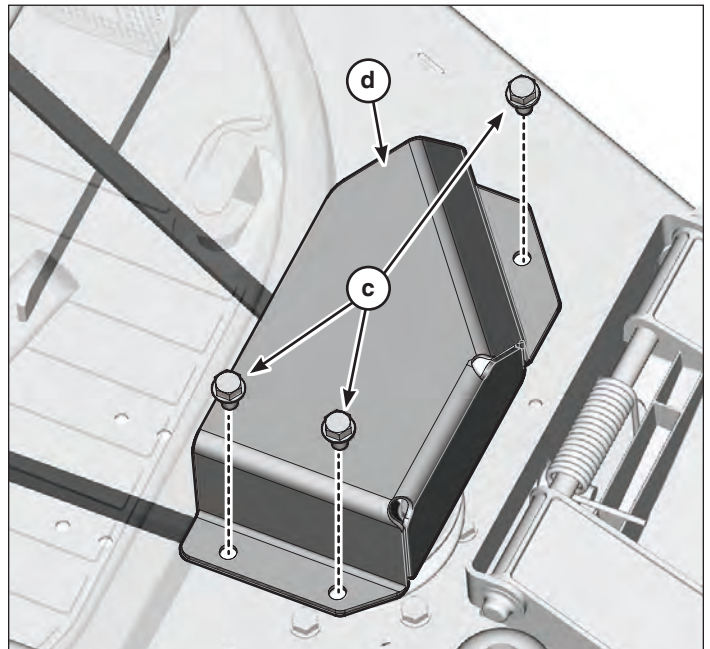
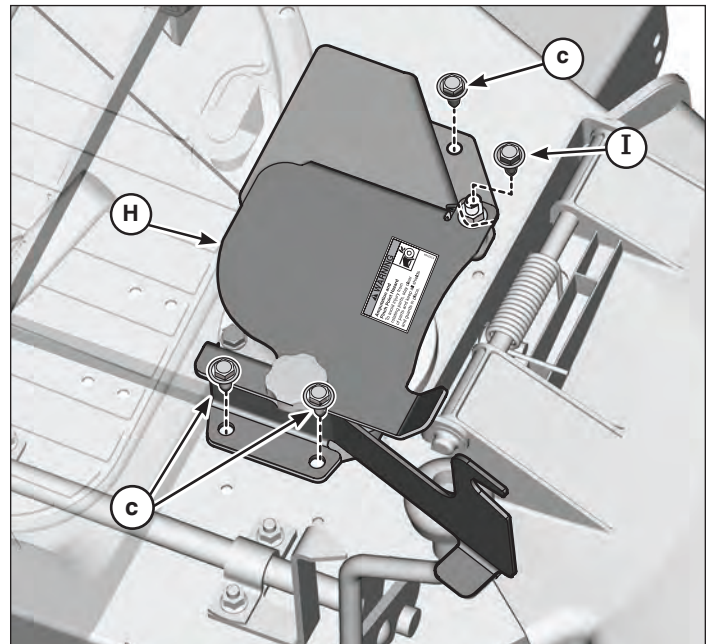

Figure 2
Figure 10
3. On discharge side of mower, remove and retain tapites (c, Figure 2) securing pulley cover (d). Remove existing pulley cover and discard.
5. Align mounting holes in pulley cover assembly (H, Figure 10) with holes in mower deck by rotating bracket position. Secure with existing taptites (c) from Figure 2 and new taptite (I).